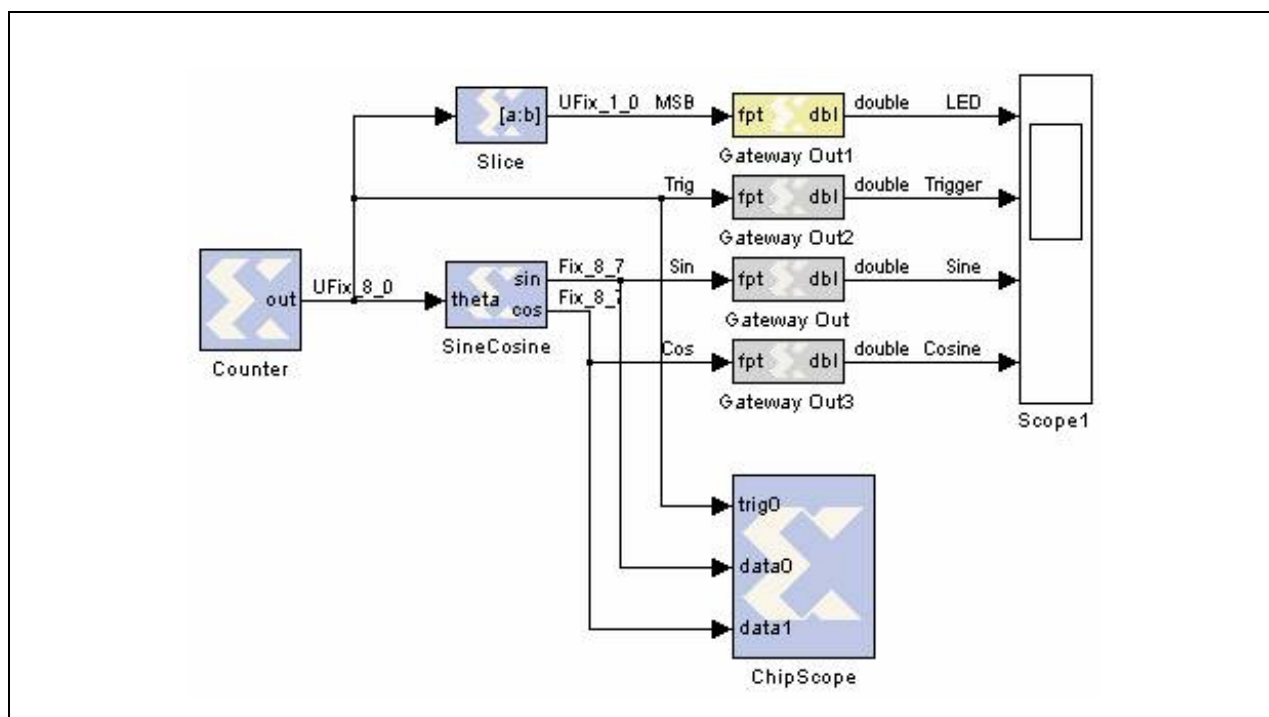

Figure I38: Connecting the Chipscope Block
7. Connect the Chipscope Block. The signal used to trigger Chipscope is the counter output. The two buses to probe are the sine and cosine from the Sine/Cosine table. Connect the signals appropriately as shown in Figure I38 on page 212.